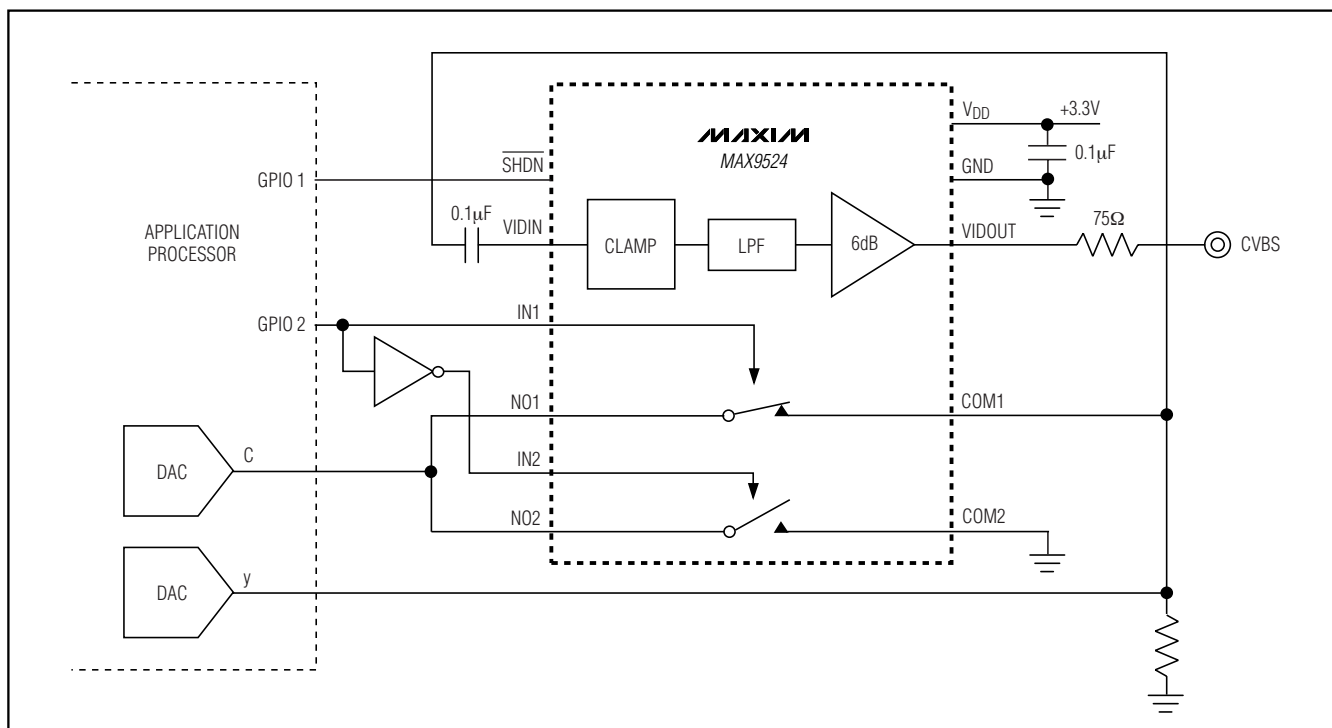

Figure 9. Luma and Chroma Mixer Circuit (Chroma Current Routed into Resistor)
If the video application processor has two current output digital-to-analog converters (DACs) for luma (Y) and chroma (C), respectively, then the signals can be mixed together to create a composite video signal by summing the currents into a single resistor, as shown in Figure 9. The composite video signal should be AC-coupled into the MAX9524 because the composite video signal has a positive DC level shift. The sync-tip clamp of the MAX9524 will re-establish the DC bias level of the signal inside the chip.